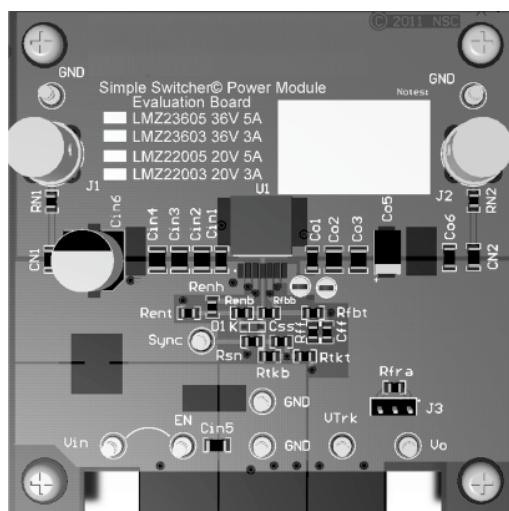

**Figure 54. Critical Current Loops to Minimize**
From an EMI reduction standpoint, it is imperative to minimize the high di/dt paths during PCB layout as shown in Figure 54. The high current loops that do not overlap have high di/dt content that will cause observable high-frequency noise on the output pin if the input capacitor (CIN1) is placed at a distance away from the LMZ23603. Therefore place CIN1 as close as possible to the LMZ23603 VIN and PGND exposed pad. This will minimize the high di/dt area and reduce radiated EMI. Additionally, grounding for both the input and output capacitor must consist of a localized top side plane that connects to the PGND exposed pad (EP).